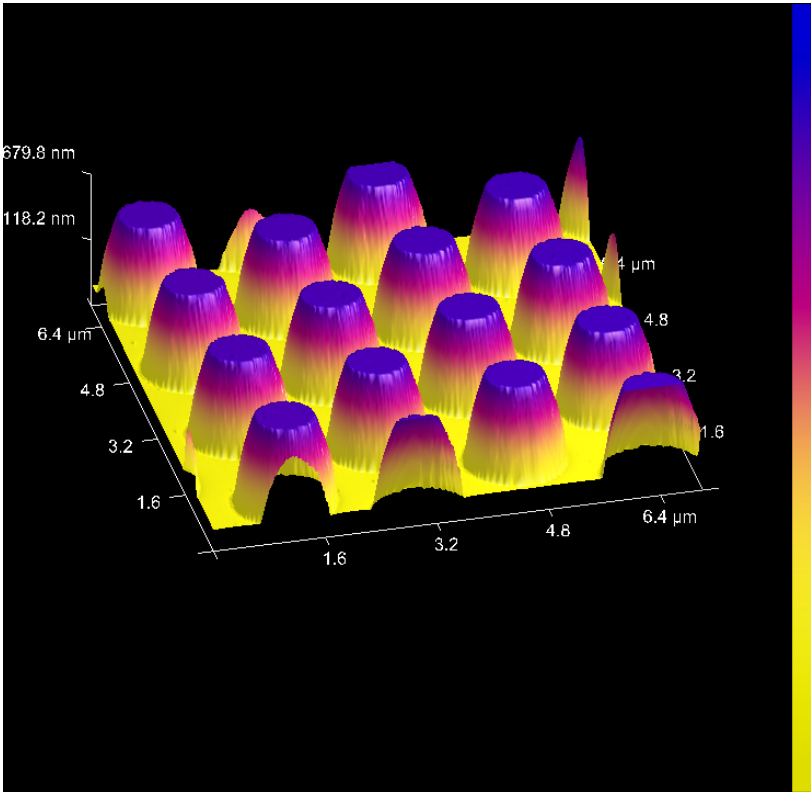
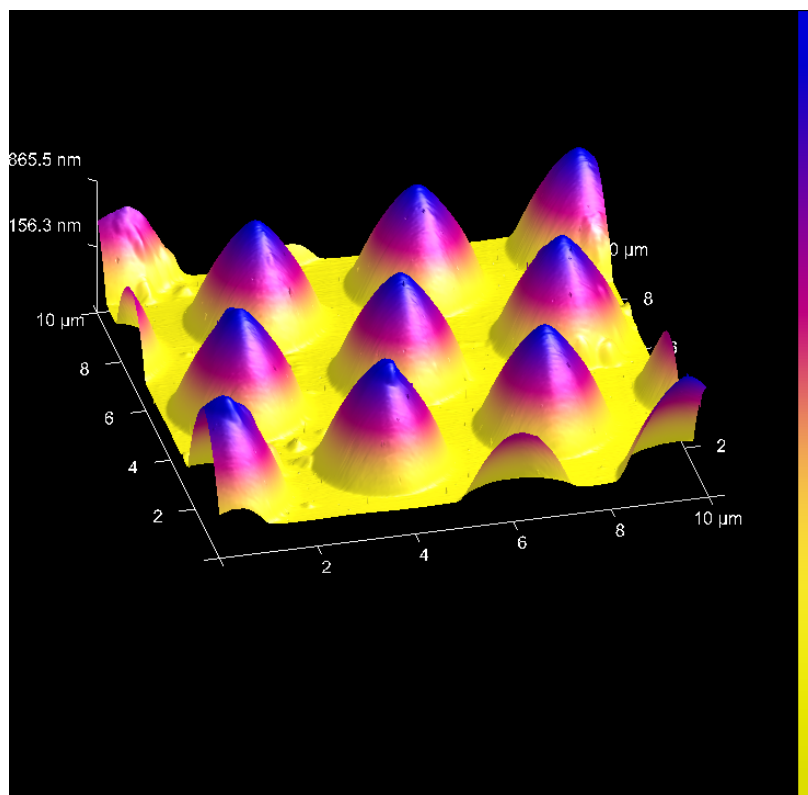

Figure 5.8b: 3D Image of typical Cone objects
Figure 5.8c: 3D Image of a sample suitable for the **Sphere** option.
- Select **Rectangle** for objects that have a rectangular in-plane shape, **Sphere** for objects that have a circular in-plane shape, **Ellipse** for objects that have an elliptical in-plane shape and **Cone** for objects with a circular in-plane shape and a conical (but with an essentially flat top) X-Z and/or Y-Z cross-section. Figure 5.8b displays a **3D Image** of a sample suitable for the **Cone** option while Figure 5.8c displays a **3D Image** of a sample suitable for the **Sphere** option.